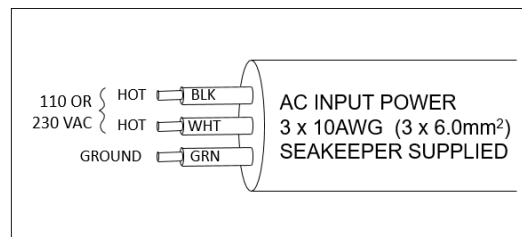

FIGURE 3 – CABLE 2 WIRE CONNECTIONS AT AC POWER DISTRIBUTION PANEL
- ii. Connect AC input conductors in CABLE 2 to a double-pole Circuit Breaker at an AC power distribution panel according to Figure 3 above.